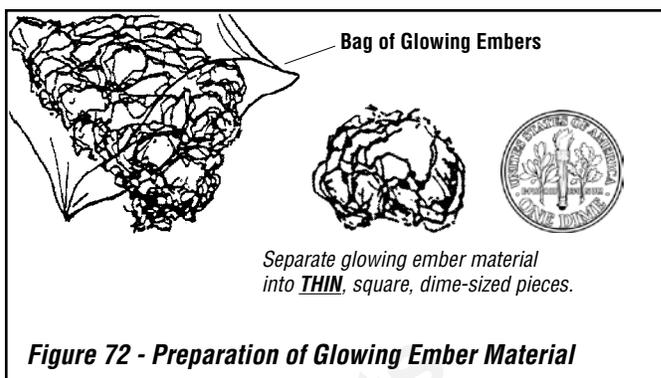

Figure 72 - Preparation of Glowing Ember Material
- a) Separate some of the glowing ember material into pieces **about the size and thickness of a dime** (see **Figure 72**). Keep the pieces fluffed up, not matted.
- b) Distribute the dime-sized pieces over the surface of the burner, in the areas shown in **Figures 72 and 73**.